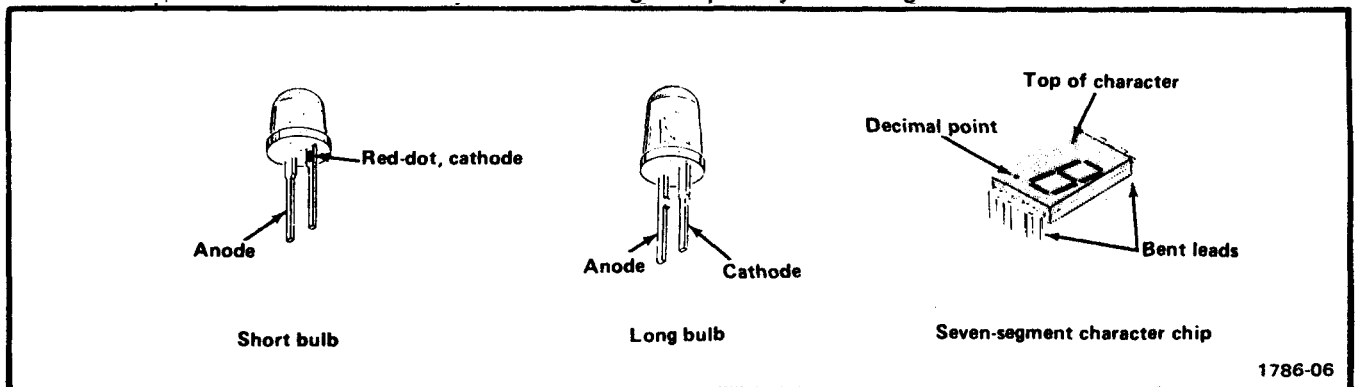

Fig. 3-2. Light emitting diode (LED) lead orientation illustration.
**Light-Emitting Diodes.** LED's used as indicators are mounted on the sub-panels with plastic sleeve sockets similar to the incandescent bulb mountings or they are soldered directly to a sub-assembly and so mounted that they protrude through holes in the panel. In these cases, the sub-assembly must be exposed and the anode and cathode lead orientations carefully noted before unsoldering the defective LED. See Fig. 3-2 for LED lead identifying information.